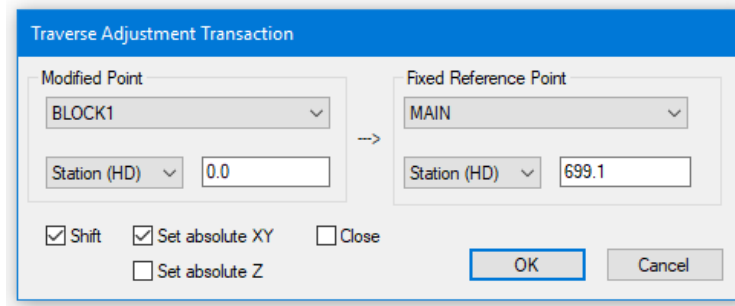

Figure 5-12: Traverse Adjustment Transaction Dialogue Box
7. Make another Traverse Adjustment (Figure 5.12):
- Enter *Station (HD)* to *0.0*.
- With *Station (HD)* set change it to *699.1*